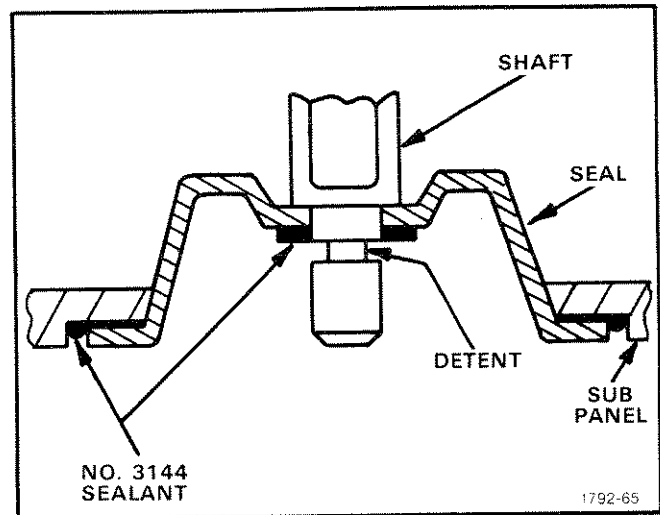

Fig. 5-11. Detail of Pushbuttons and their Shafts.
**11. Install pushbuttons and their shaft assemblies (see Fig. 5-11)**
2. Insert the shafts into the pushbutton seals. See Fig. 5-11.